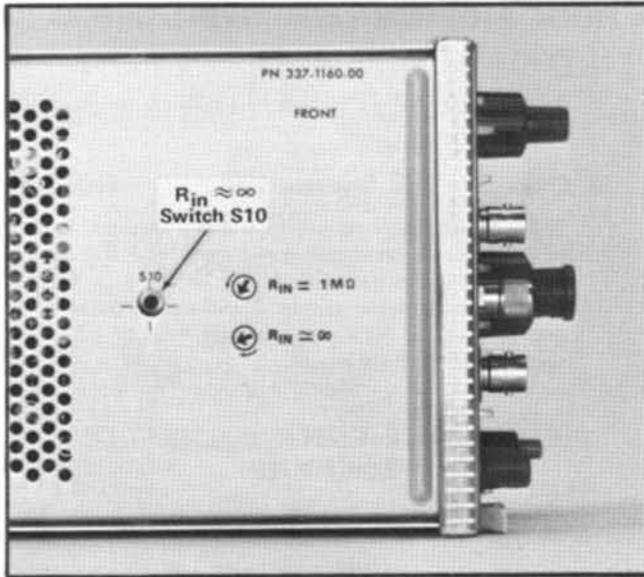

Fig. 5-1. Location of the $R_{in} \approx \infty$ switch S10 on the Attenuator board.
1. Set the Type 7A13 $R_{in} \approx \infty$ switch, S10 (see Fig. 5-1), to the $R_{in} = 1\text{M}\Omega$ (counterclockwise) position.
$R_{in} \approx \infty$ (internal switch, S10, see Fig. 5-1)	$R_{in} \approx 1\text{M}\Omega$ (see Preliminary Procedure, step 1)